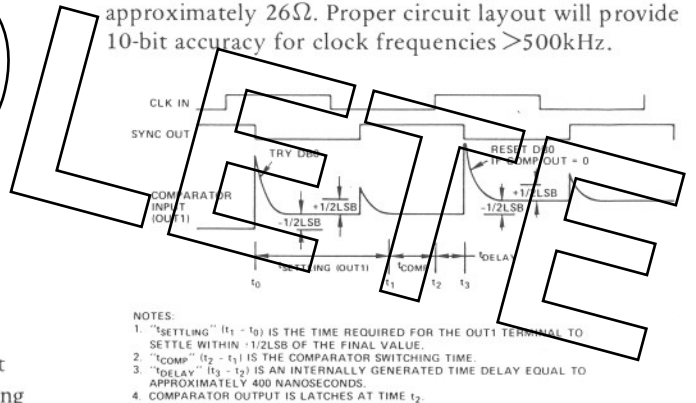

Figure 8. Expanded Timing Diagram
For 10-bit accuracy, the first MSB must settle to within 0.1% of final value; the second MSB to within 0.2%. The LSB settling requirement is only 50% of the LSB value. Figure 8 illustrates the settling time available during a given clock period. The pulse shown on the OUT1 terminal falling midway between  $t_0$  and  $t_3$  is a feedthrough from internal clock mechanisms and is due primarily to bonding wire and header capacitance. Two methods may be used to reduce the OUT1 settling time:
1. Load OUT1 with a 1k resistor. This reduces the time constant by a factor of 10. Further reduction of the 1kΩ load reduces the amount of comparator overdrive, thus increasing the comparator propagation delay, resulting in a reduction of available settling time ( $t_1 - t_0$  on Figure 8).